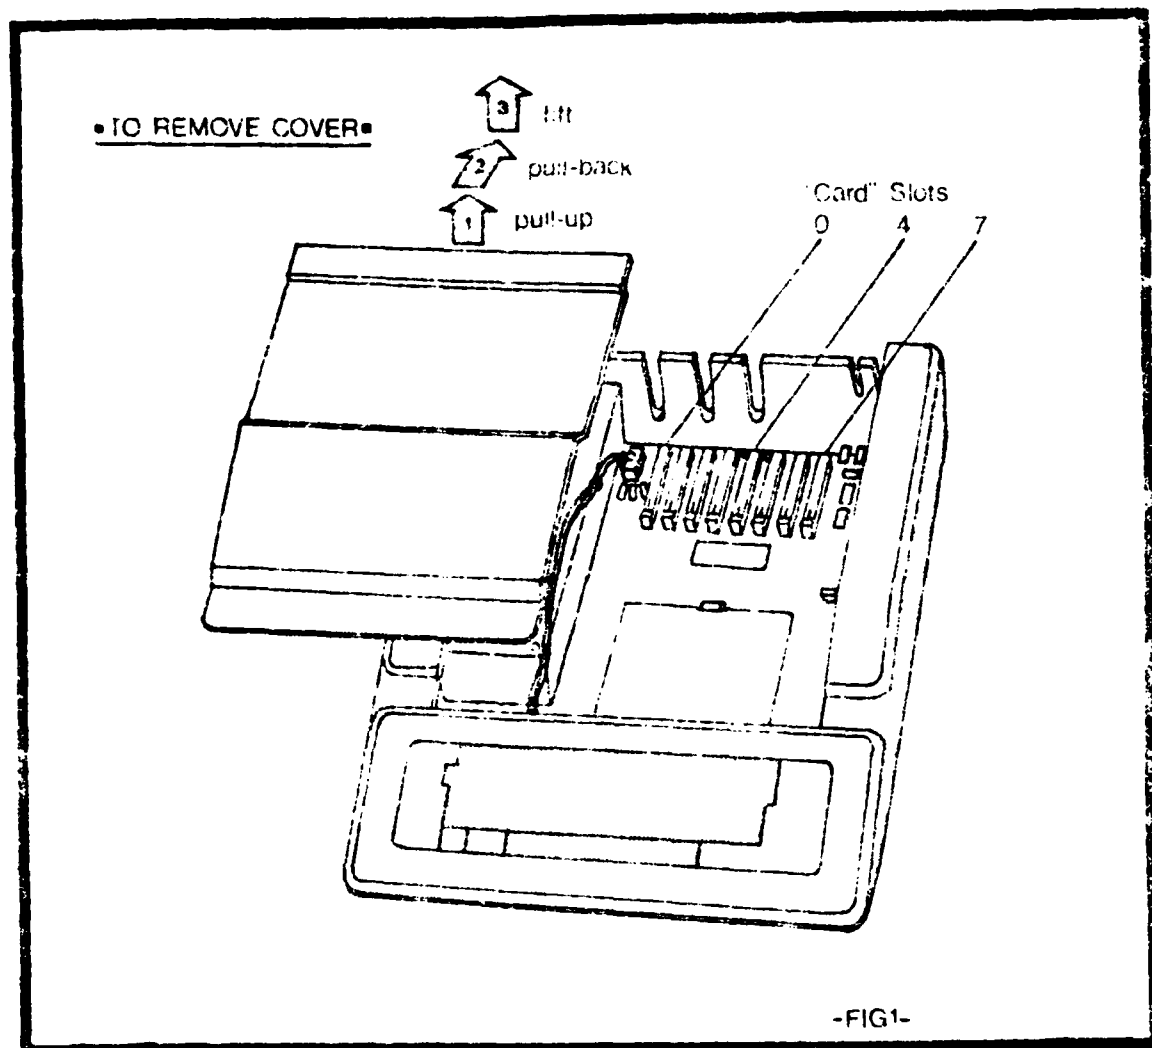

Figure 3-1. Removal of the Apple II cover to access "card" slots.
3.1.2 Task 2: Removing the cover. The computer has a keyboard on the front with a covered compartment that lies behind the keyboard. The rear cover must be removed before components can be added: (1) pull up on the rear edge of the cover until the two corner fasteners pop apart, (2) slide the cover backwards until it comes free, and (3) lift the lid (see Figure 3-1).
The cards are inserted into long, narrow sockets called slots. (Do not attempt to insert a card until specifically instructed to do so in later sections.) There is a row of 8 slots located inside the Apple II near the rear of the circuit board. As can be seen in Figure 3.1 above, the leftmost one (looking at the computer from the keyboard) is Slot #0 and the rightmost is Slot #7.
3.6.3 Task 3: Insert the clock card into Slot #7. Insert the clock controller card into Slot #7; the rightmost slot. (See Figure 3.1). Check to be certain that the U-shaped clip attached to the top of the cord support knob of the hand controller is not in contact with the clock card.